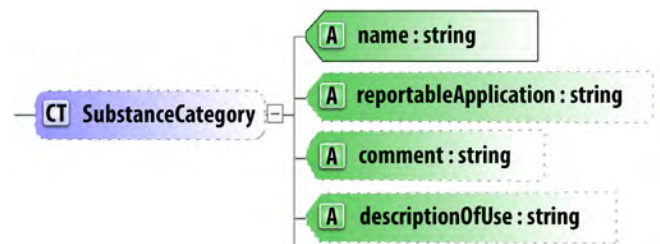

Figure 6: Substance category element in IPC-1752 Class C list.
- The portable document format version of the list in appendices provides the CAS number of the individual substances, but not the XML schema of the list element, the "substance category" element (Table 4 and Figure 6); this is an opportunity for enhancing the data accuracy